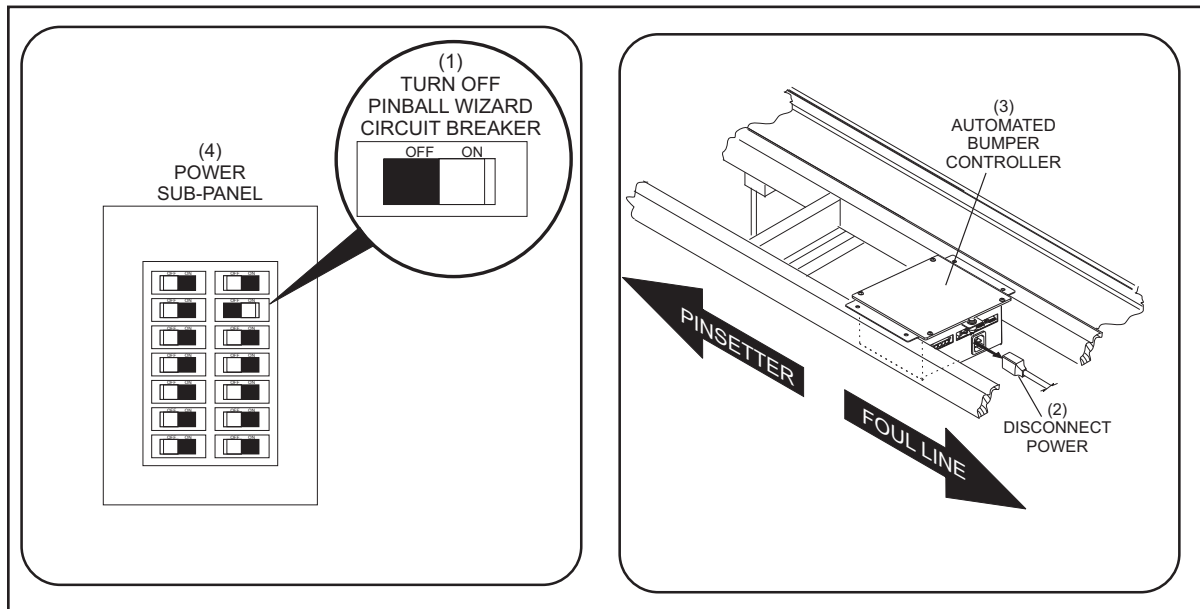

Figure 1. Disconnect Power
2. Power to the Automated Bumper Controller box must be disconnected prior to servicing the bumper system. Refer to *Figure 1*.
During non-operational service of the bumper system additional precautions need to be taken as integrated safety features may be unexpectedly triggered or may have been temporarily disabled during service. To prevent unexpected operation, all non-operational work must be done with the power turned off and the power cord unplugged from the bumper controller PCB. Additionally, the power cord must be secured so that it cannot be used to power the bumpers until they are ready to be put back into service. Refer to *Figure 1*.
Power to the Automated Bumper Controller box must be removed prior to servicing the bumper system. It is suggested that the circuit breaker that supplies power to the Bumper Controller be turned off AND the power cord connected to the side of the Bumper Controller Box be disconnected. Refer to *Figure 1*.
2. Power to the Automated Bumper Controller box must be removed prior to servicing the bumper system or raising or lowering the rails. Refer to *Figure 1*.